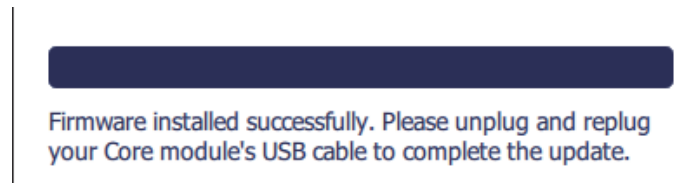

Figure 21 - Firmware Installed Successfully. Unplug and Replug the Core Module's USB Cable.
3. When a message appears to indicate that the firmware has been installed successfully (Figure 21), unplug the Core module's USB cable, wait a few seconds, and then reconnect it.